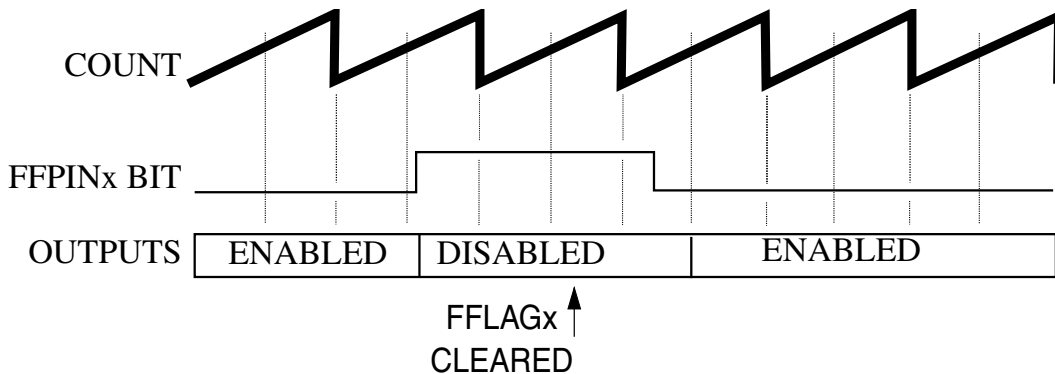

Figure 26-31. Manual fault clearing (FCTRL[FSAFEx] = 1, FSTS[FHALFx] = 1)
- The filter detects a logic zero on the `FAULTx` pin at the start of the next PWM full or half cycle boundary, as shown in Figure 26-31. If `FSTS[FFULLx]` is set, then the disabled PWM pins are enabled at the start of a full cycle. If `FSTS[FHALFx]` is set, then the disabled PWM pins are enabled at the start of a half cycle.